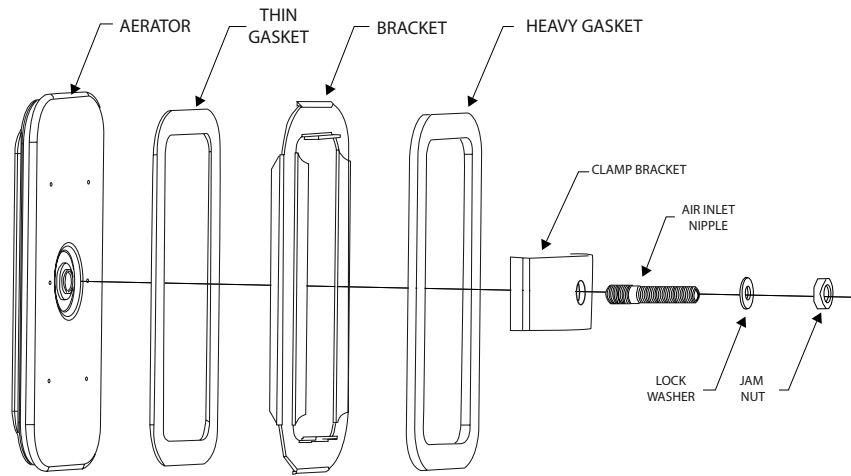

Figure 4: Aerator and External Mounting Assembly Kit Sequence
The Model RA aerator can be mounted and replaced from outside of the bin. This requires the use of an external mounting kit accessory item for each aerator. This simplifies the installation. Once the initial rectangular hole is cut, the aerator can be assembled with the external mounting bracket and installed on the bin within a couple of minutes. Refer to Figure 4 for the overall assembly sequence of the aerator and external mounting kit. The air inlet nipple and jam nut from the mounting hardware provided with the aerator will be used to plumb and secure the aerator using the external mounting kit.
2. Peel off the protective tape on one side of the thin gasket and attach it to the front side of the external mounting bracket. Refer to Figure 4.